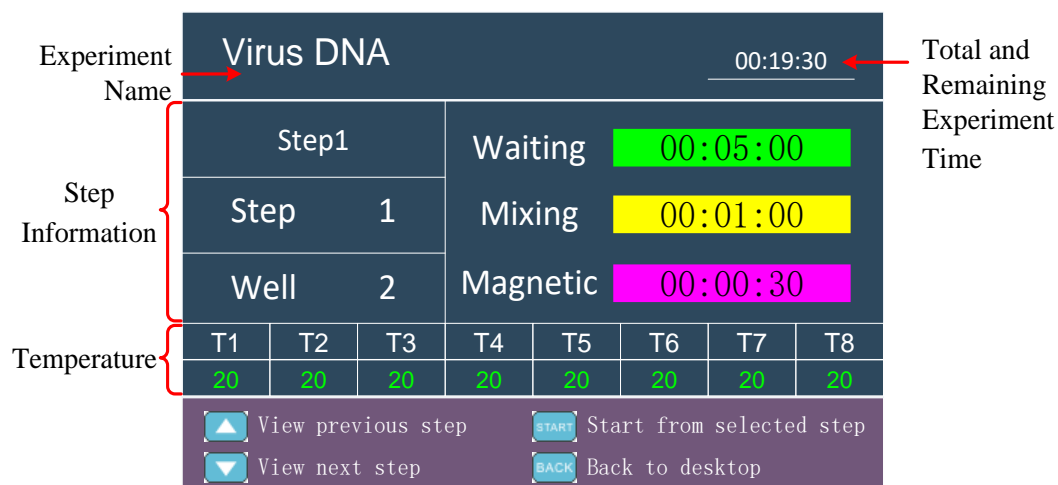
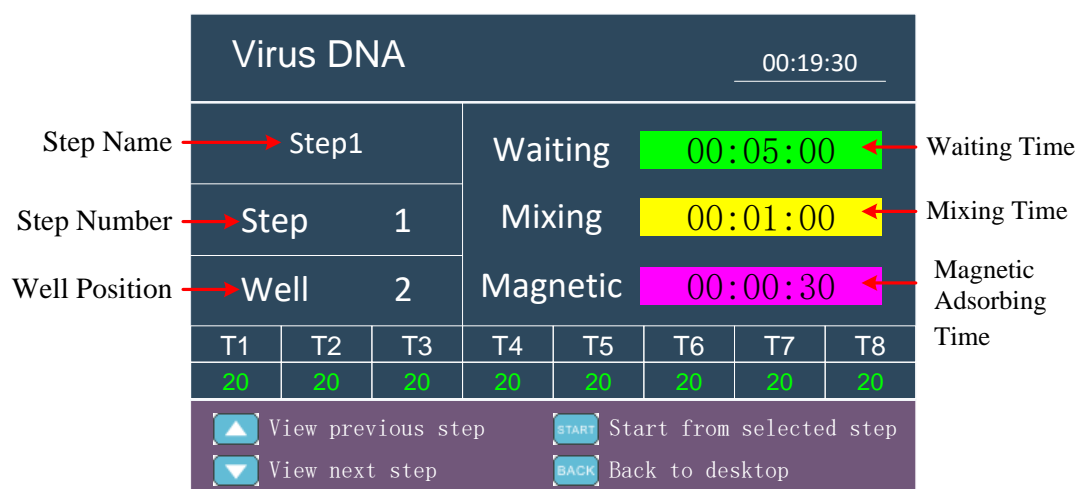

Figure 4-5 Instrument System Software - Experiment Running Interface
Figure 4-6 Experiment Running Interface - Step Information
After selecting a certain experimental program on the experiment selection interface, user could press  to enter the experiment running interface, as shown in the figure 4-5.
- The selected experiment program will stand-by for running and the detailed information (Experiment name; Step information; Temperature; Total and remaining experiment time) of the selected experiment program will be displayed. And the step information including: step name, step number, well position, waiting time, mixing time and magnetic adsorbing time, as shown in figure 4-6.
4. Press  or  to select a certain experiment program. Press  to enter the experiment running interface, as shown in the figure 4-5 and the figure 4-6.